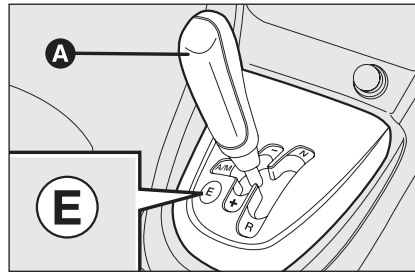

fig. 3
- ❑ the second fully automatic (**AUTO**), where the system decides when to shift gear. **ECO** function (Economy) can be used with this mode reducing fuel consumption. To turn this function on, press button **E**-fig. 3 located on the gearbox trim.